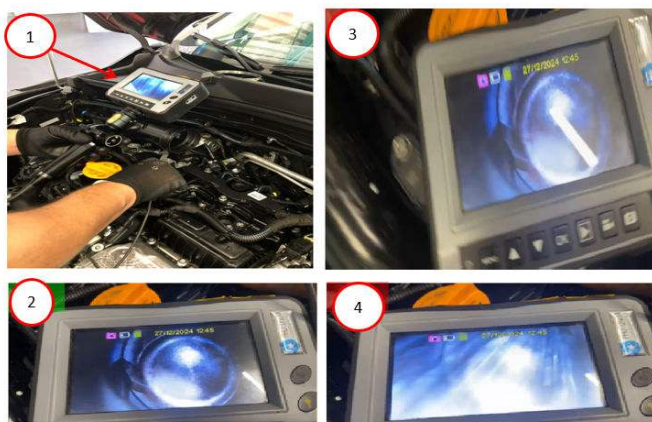

Fig. 2
2. Using an Endoscope, check all injectors Fig. 2. With the help of a collaborator, ask helper to turn the ignition key without starting the vehicle. **Keep the ignition on for one minute per injector.**